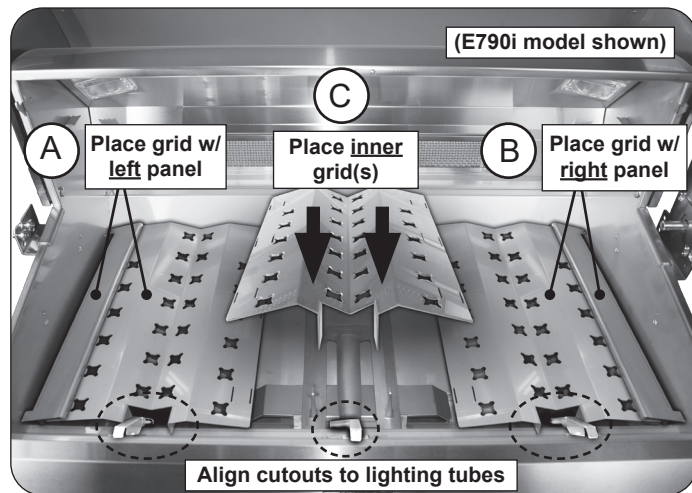

Fig. 31-1 Install flavor grids
1. Locate the flavor grid with the pre-attached **left panel** (see Fig. 31-1, A).
2. Carefully rest the grid onto the rear and front flavor grid rests while ensuring the flavor grid cutout clears the left-most lighting tube. See Fig. 31-1, A.
3. Locate the flavor grid with the pre-attached **right panel** and place it on the right side of the grill (see Fig. 31-1, B).
4. Take the inner grid(s) and install between the left and right flavor grids (see Fig. 31-1, C).